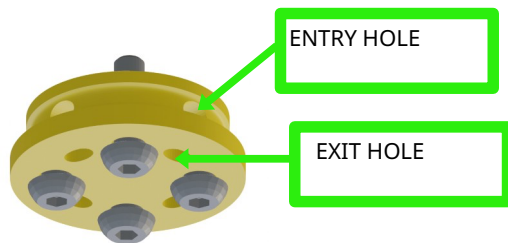

Figure 5.64:
2. Insert the end into the top right hole of the spooler and pull it out from the corresponding exit hole (figure 5.64), make sure that the amount of tendon coming out of the hole is long enough to prevent it from slipping out again.